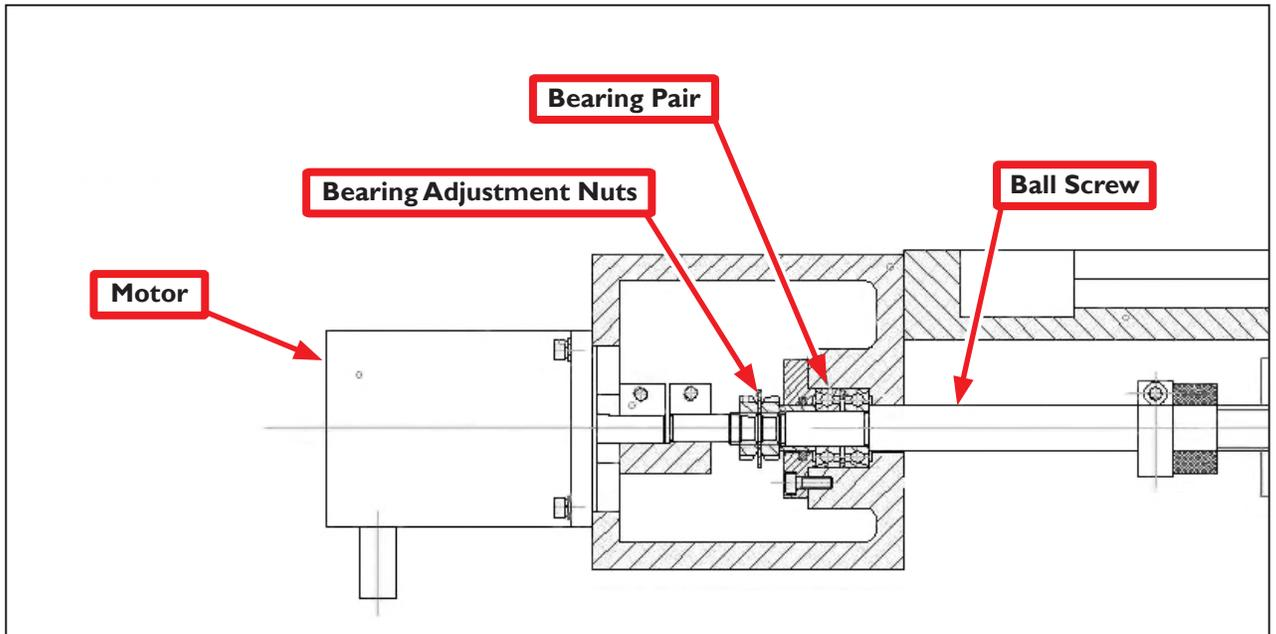
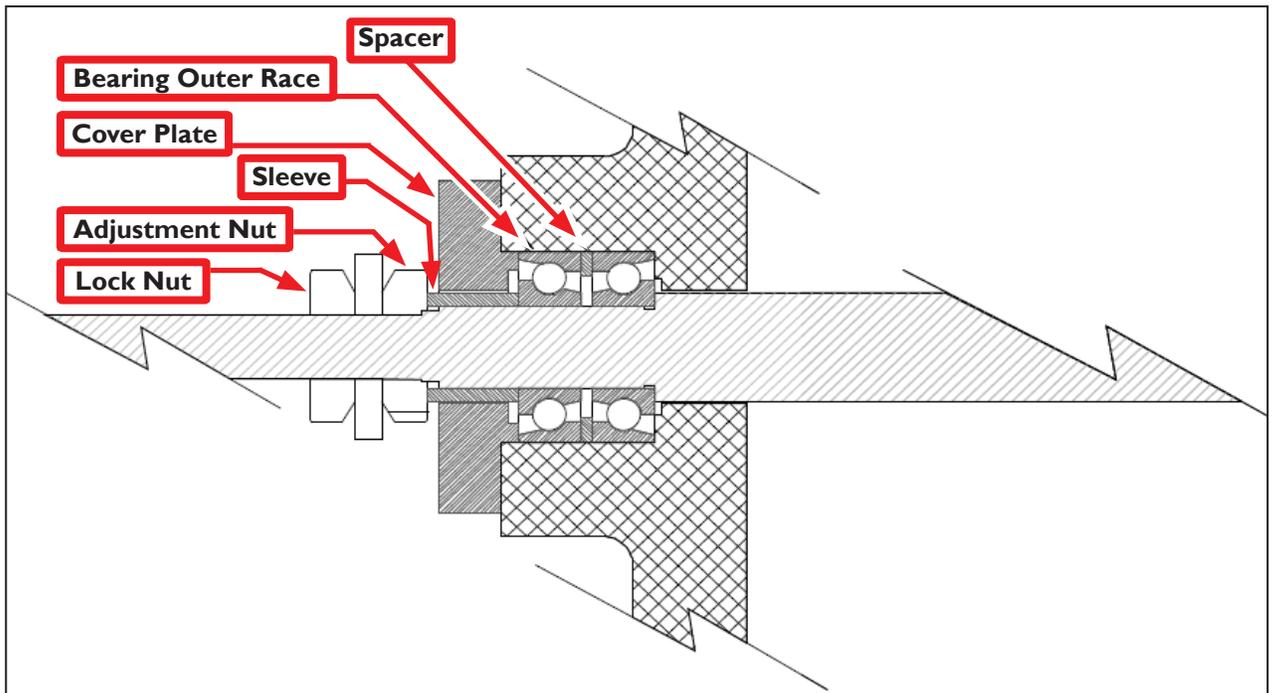

Figure 9.4
Figure 9.5
**Figure 9.4** and **Figure 9.5** show a cross section of a typical ball screw shaft mount. The ball screw shaft is in the center and the crosshatched section in **Figure 9.5** is the axis motor mount that houses the bearings. There are two angular contact ball bearings, forming a pre-loaded pair. The ball screw *Cover Plate* holds the two outer races together, along with the *Spacer* that is between them.
There are two nuts: the adjustment nut and the lock nut. The nut nearer the bearing housing is the adjustment nut, and the one nearer the axis motor is the lock nut (see **Figure 9.5**).